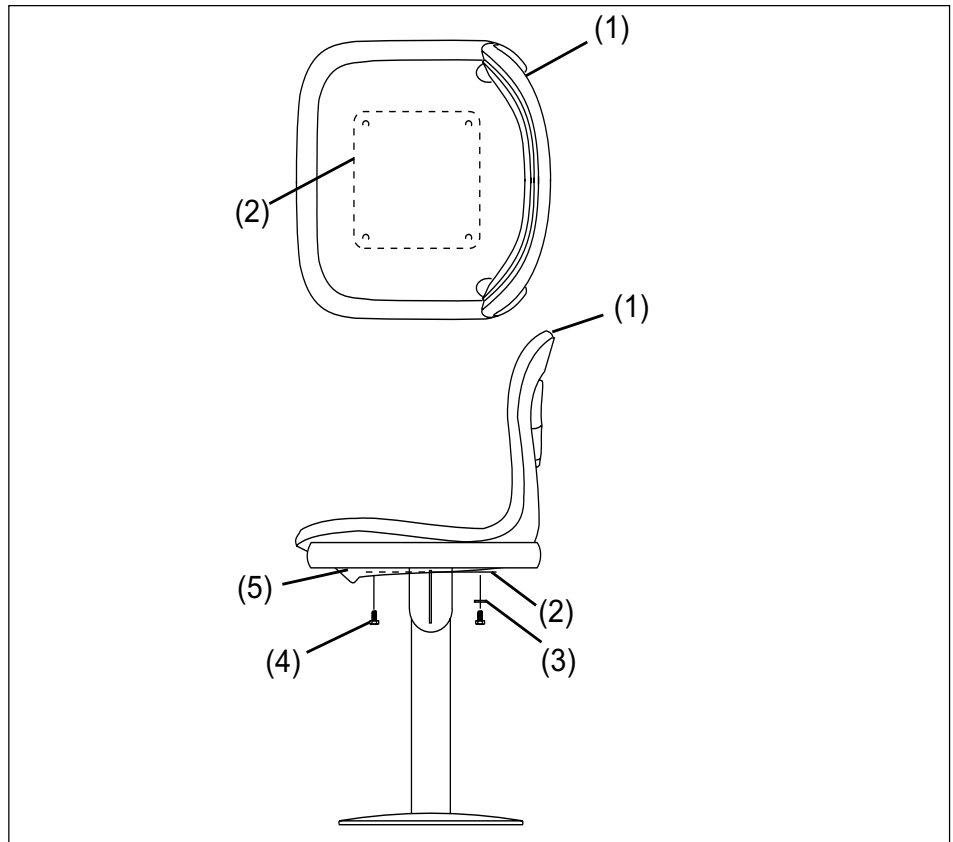

Figure 8. Secure Seat Bucket to Seat Weldment
1. Align the holes in the seat weldment with the four factory drilled holes in the seat bucket. Secure the seat weldment to the seat bucket with four each 1/4-10 x 1" hex head self tapping screw and star washer. Refer to *Figure 8*.